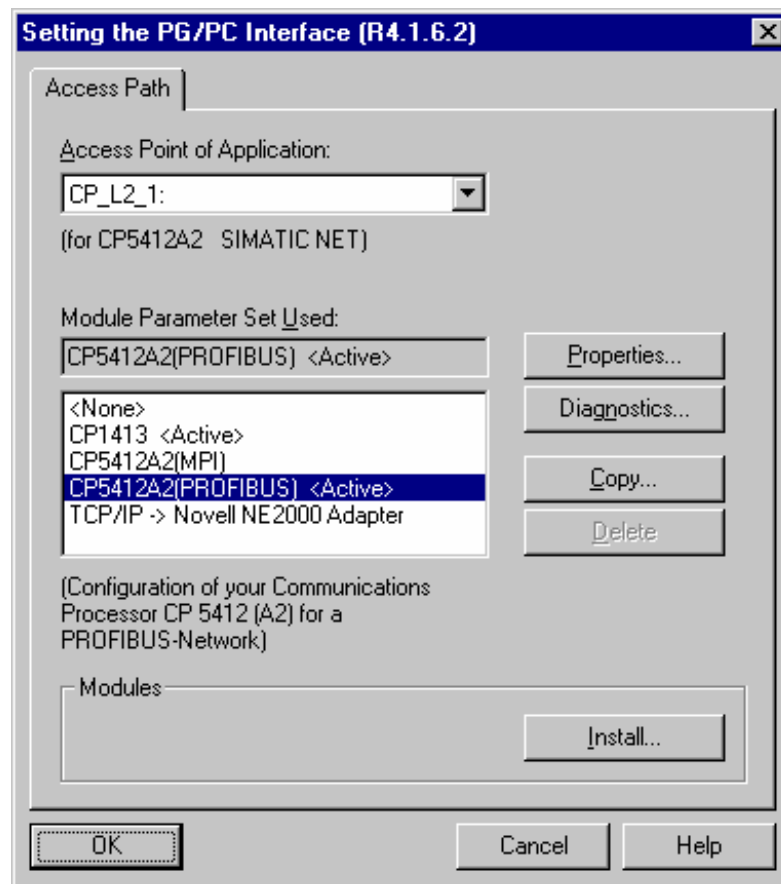

Figure 2.
10. Click Install button at the lower right corner of the dialogue box, see figure 2.
18. Click Install button at the lower right corner of the dialogue box, see figure 2.